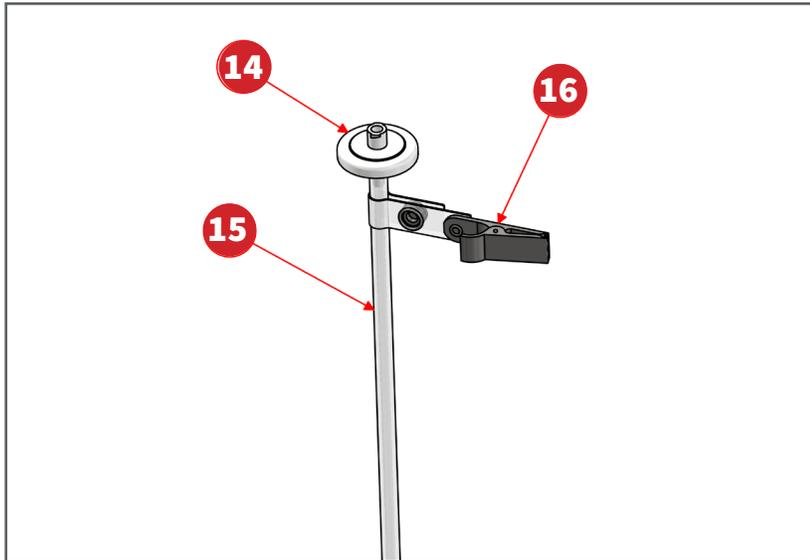

Figure 6: Breathing zone inlet
- A breathing zone inlet that clips to your clothing for industrial-hygiene monitoring. (See figure 6)